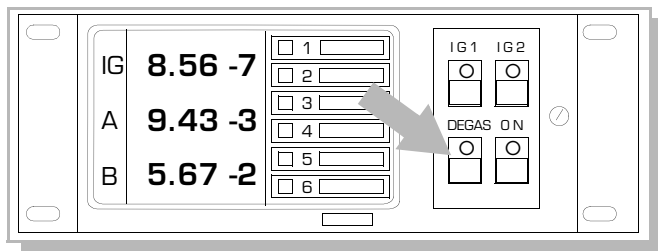

Figure 5-2 Control Unit Front Panel Showing DEGAS Button and LED Indicator.
5. To degas IG1 (IG1 must be on and the pressure within IG1 must be below 5×10^{-5} Torr), depress the DEGAS switch on the Control Unit (see Figure 5-2). When degassing with cathode 1 selected, both cathodes will operate in order to achieve full degas power and thorough cleaning of both cathodes.
6. When either cathode is nearing the end of its useful lifetime or is badly contaminated, the DEGAS switch LED indicator on the front panel will blink during degassing (see Figure 5-2). This is an indication that the cathode emission properties have deteriorated. This may be due to contamination which has temporarily “poisoned” the cathode coating, or to long term permanent erosion of the coating. If this condition does not disappear after a few days of operation at clean high vacuum or UHV, it is an indication that one or both cathodes are approaching their end of life. See Section 6.6 on page 6-7 for more discussion.